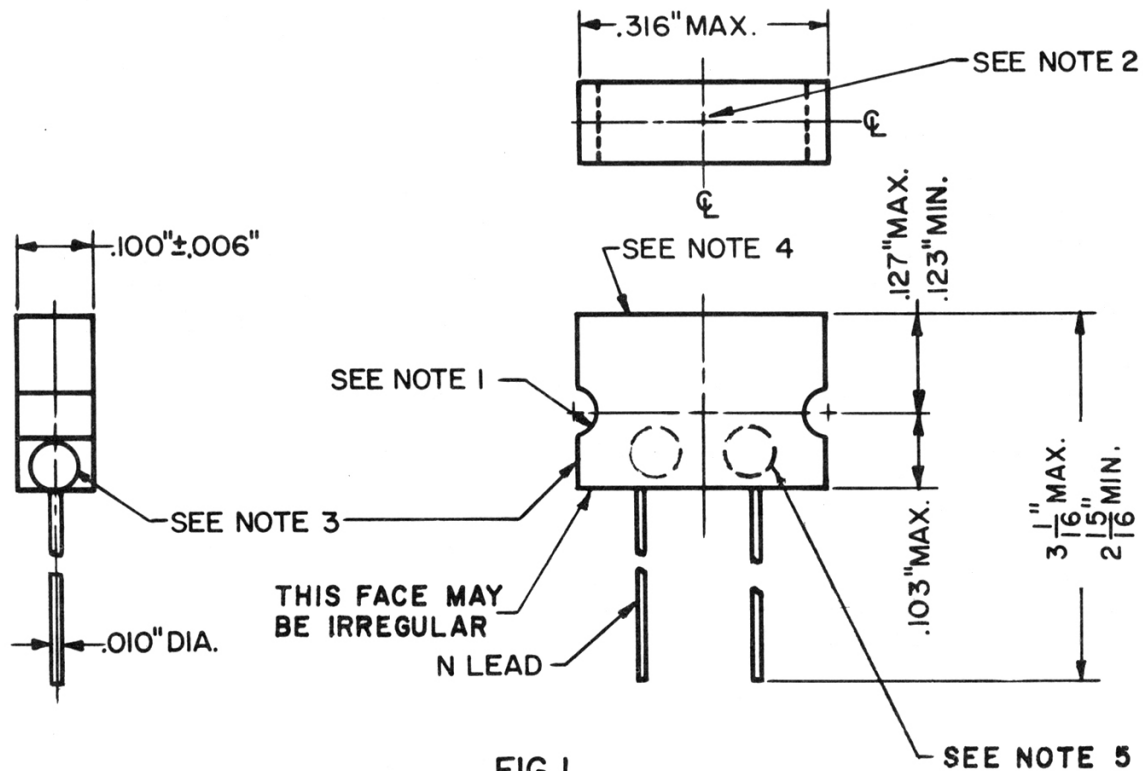

FIG. 1
2. Light source is a tungsten lamp with color temperature of 2870°K. The light is focussed into a spot size of .010" vertical x .020" horizontal, the location of which is shown in Fig. 1, Note 2.